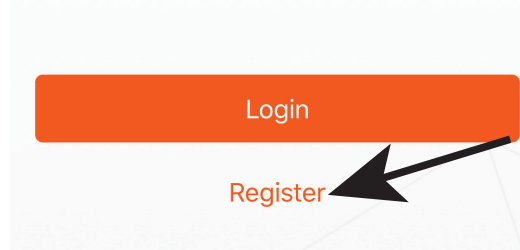

Fig 1
**Step 3:** Open the V-TAC Smart Light app and tap on register for creating a new account. If you already have an existing account, please proceed to please proceed to logging in.(Ref Fig 1)